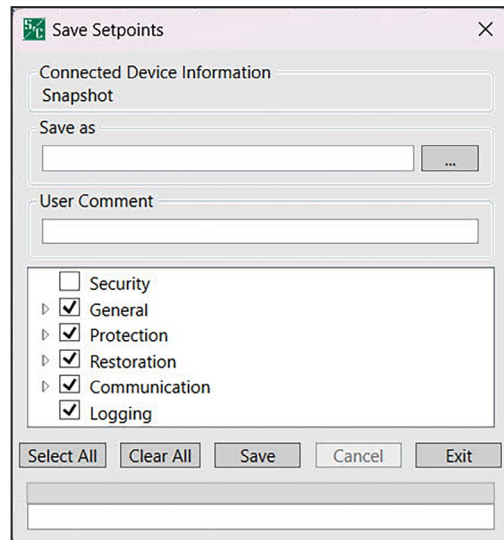

Figure 20. The Save Setpoints dialog box.
- STEP 2.** In the Save Setpoints dialog box, click on the **Select All** button followed by the **...** button. See Figure 20.